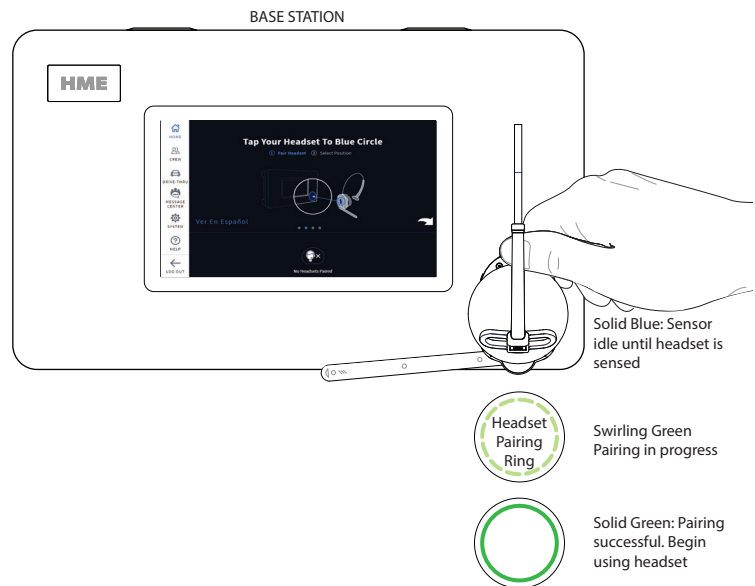

Fig. 6.2
2. Hold the keypad side of the headset against the Headset Pairing Ring (solid blue circle) on the Base Station to pair. Pairing begins automatically as soon as the headset is sensed. The circular blue light turns a swirling green to indicate pairing is in progress (Fig. 6.2).